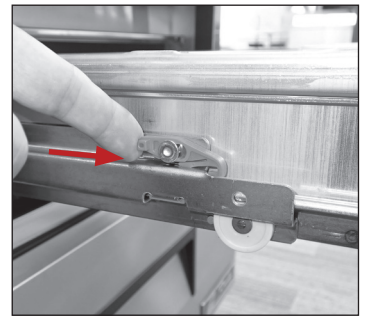

Fig. 6a. Push the retainer forward.
9. Push the plastic drawer retainer forward and raise the front end. See figs. 6a and 6b.